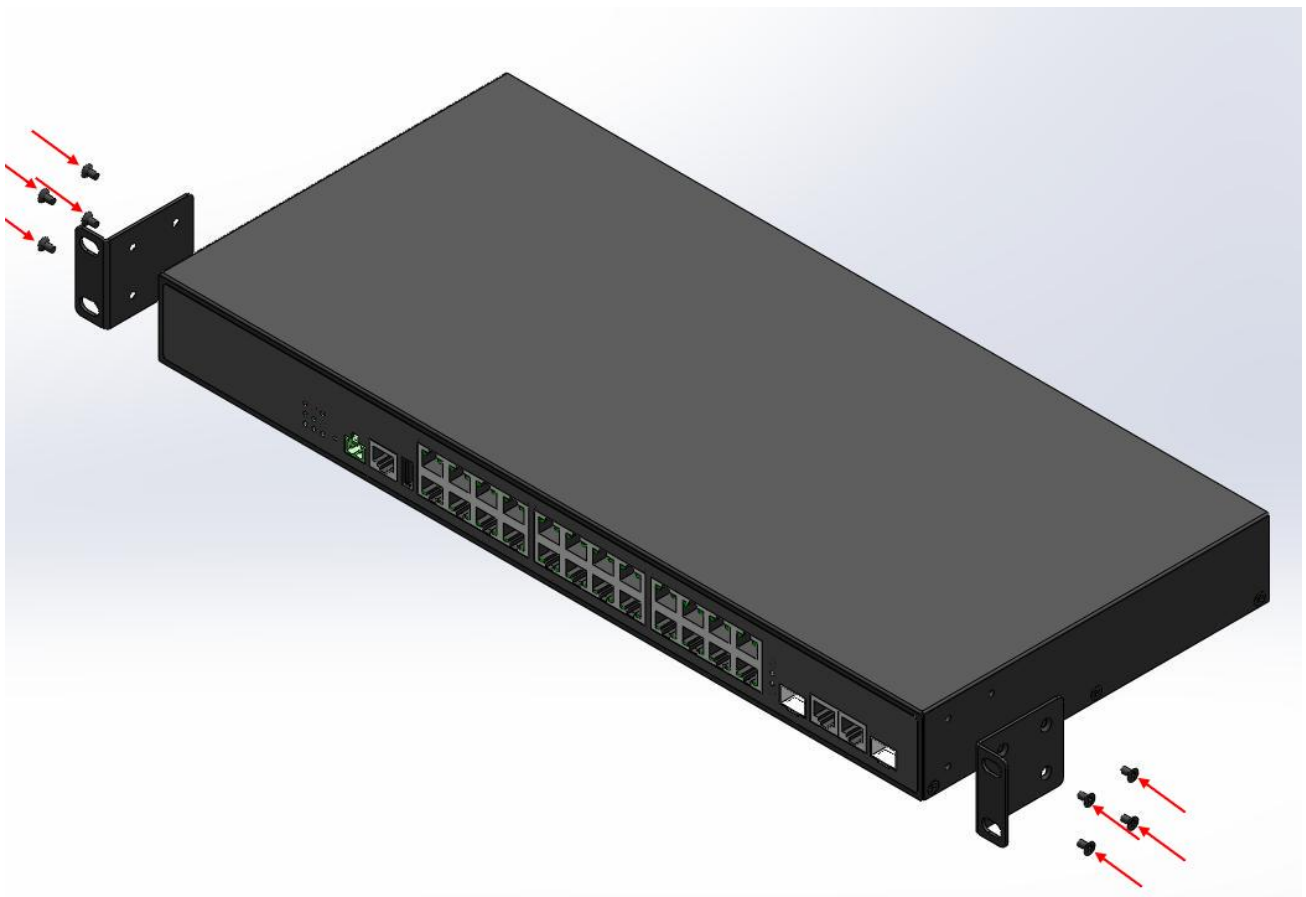

Figure 3.1 Installation of Rack-mounting Switch
Step 1. Locate one plate to align with the holes on one side of the switch and secure it with the plate screws and then attach the remaining plate to the other side of the switch. Please refer to the Figure 3.1